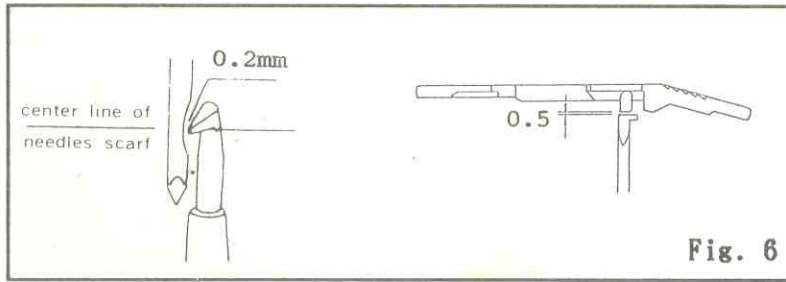

Fig. 6
4. Fasten the needle-bar screw (SA26), put the needle bar protective cover (A101R) back, and then readjust the clearance between the needle and looper (A300) according to Fig.6.
4. Ajuste el tornillo (SA26) (seguro de aguja), ver la Fig.6.
4. Aperte o parafuso da barra de agulha (SA26) e reajuste a folga (A101R) entre a agulha e o looper (A300), de acordo com a Fig.6.
| 5. 把勾針座, 裝入勾針座軸 (A303R) 上, 調整勾針座如圖6. 並鎖緊螺絲 (SA03). | 5. Put the holder back to the holder bed (A303R) and adjust the height and timing of looper as per Fig .6. and fasten the screw (SA03). | 5. Coloque el garfio en el cabezal (A303R) y ajuste su altura y cronometraje (SA03), ver la Fig.6. | 5. Coloque o suporte do looper de volta (A303R) ajustando a altura e sincronismo do looper conforme (SA03) Fig 6. |